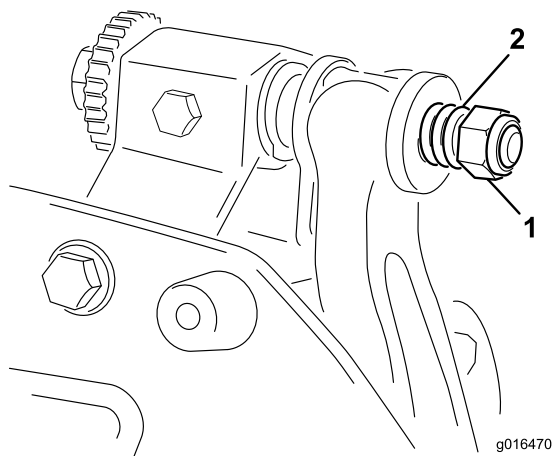

Figure 16
6. Tighten the spring tension nut until the spring is collapsed, then back it off 1/2 turn (Figure 16).